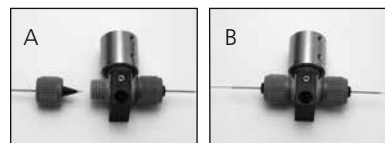

Figure 12A: Assembling the nut, ferrule, sleeve and transfer line 12B: Securing the transfer line assembly into the MicroTee
8. Insert the distal end of the fused-silica transfer line through a green MicroTight sleeve, then through the nut and the black MicroFerrule (Figure 12A)